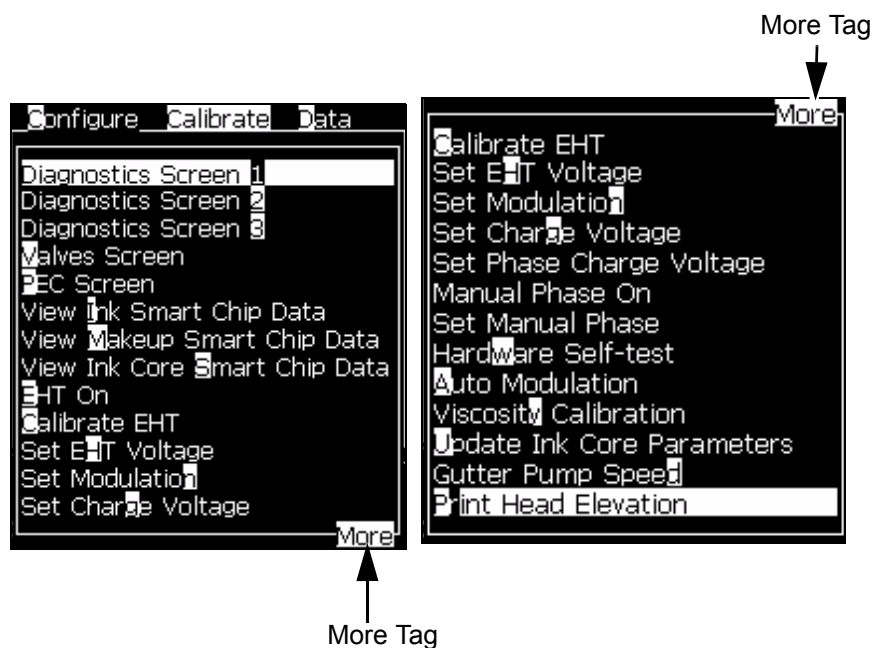

Figure 5-2: The More Tag
**Note:** If there are many items on the menu to display on screen, the label **More** appears next to the top or bottom of the menu. For example, refer to Figure 5-2 on page 5-2. This label indicates that more menu entries are available above, or below the items that are displayed now. Press the *Up arrow* key or *Down arrow* key to scroll through the items.